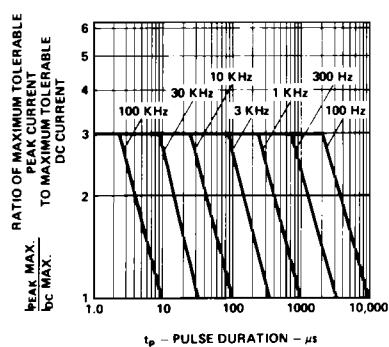

Figure 5. Maximum Tolerable Peak Current vs. Pulse Duration. (IDC MAX as per MAX Ratings).
1. See Figure 5 (Red/Orange), 10 (Yellow), or 15 (Green) to establish pulsed operating conditions.